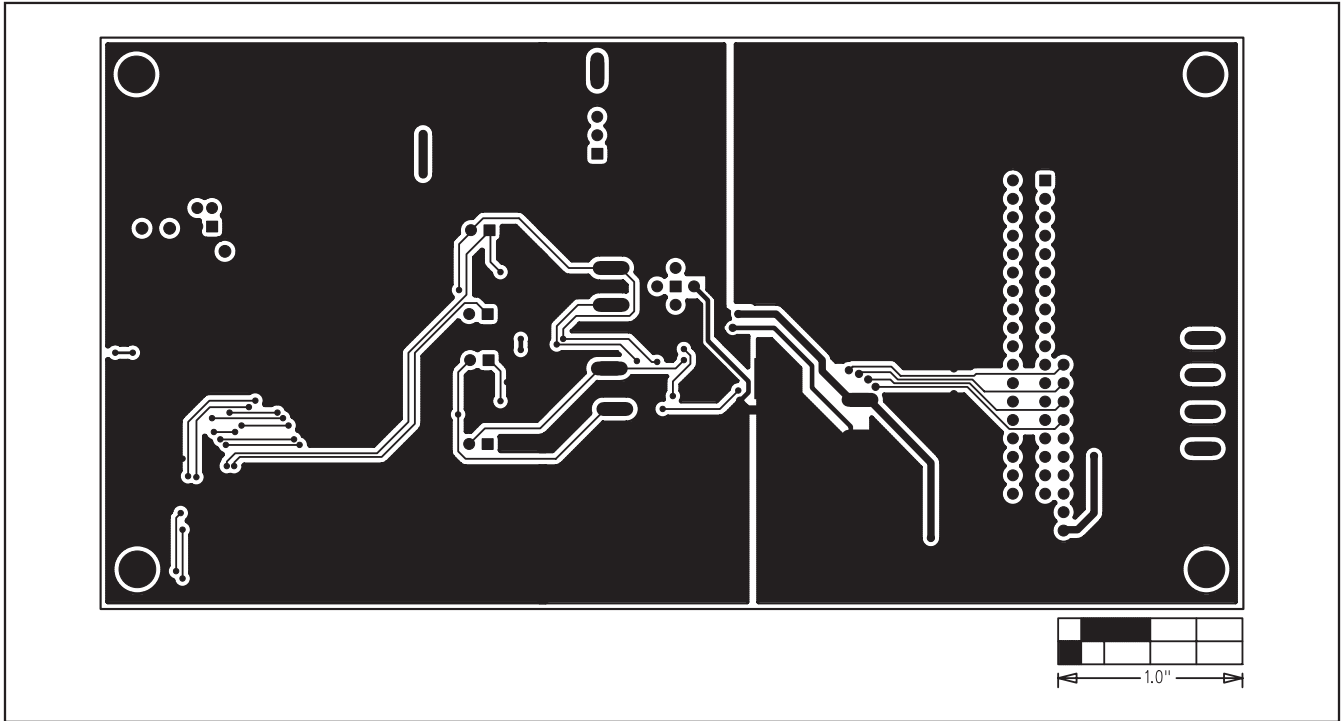

Figure 6. MAX9591 EV Kit PCB Layout—Solder Side
- 1) Viewing Figure 6, cut the SDA, SCL, STD_REG, and BANK_SEL traces immediately to the left of the corresponding PCB pad.